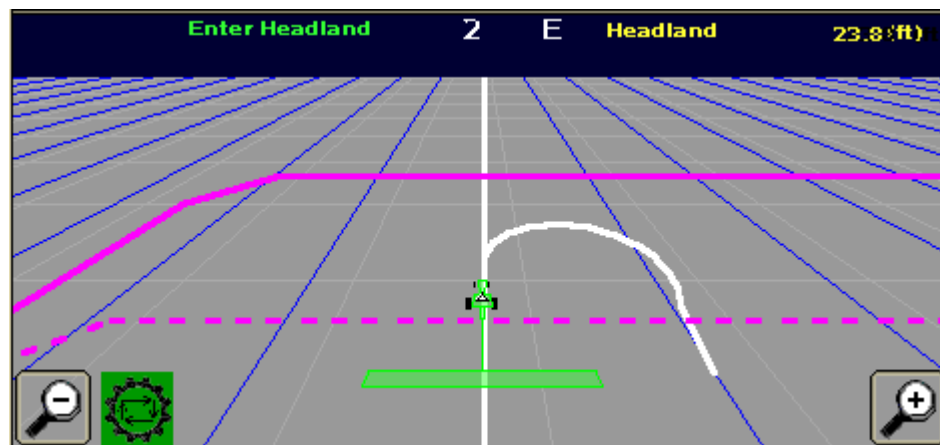

Figure 3. Simple Turn
- Use smallest Turn Radius possible (see Figures 3 & 4)